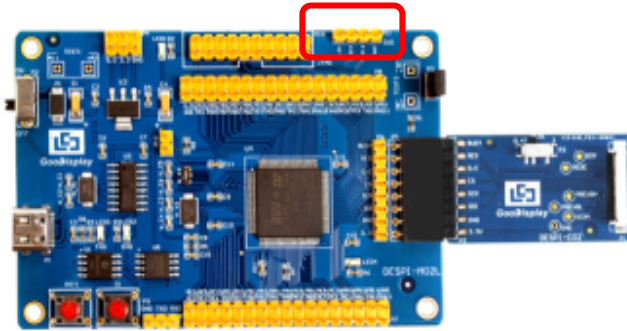

Figure 10: SWD interface
1) As shown in figure 10, DESPI-M02L has a 4-wire SWD interface, which can be connected to the simulator interface by 4 wires and then connect the simulator to the computer.